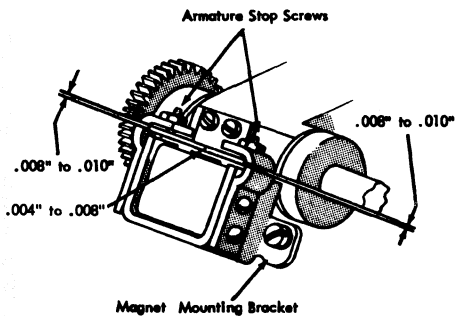

Figure 102. Auxiliary Transport Adjustment
1. Shim magnet to obtain armature-to-core clearance of .004 inch to .008 inch, with armature sealed against yoke (Figure 102).
3. Adjust the two armature stop screws to allow armature travel of .008-inch to .010-inch measured between yoke and each armature end (Figure 102).